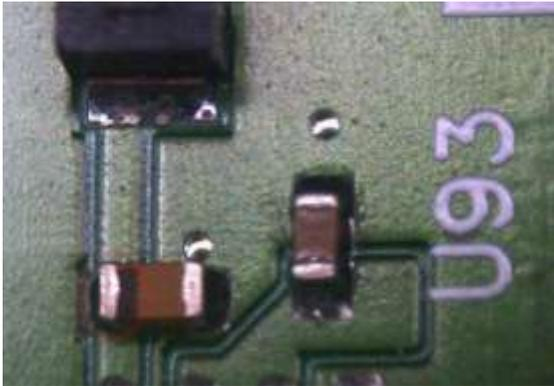
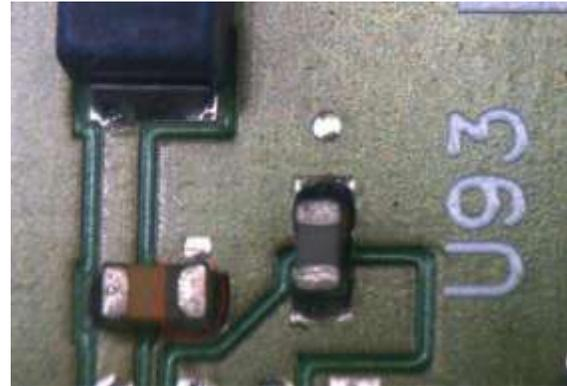

Figure 5
Figure 6
- (e) The polarity of C160 is indicated by a dark brown stripe at the positive electrode. The correct orientation of C160 is shown in Figure 5, whilst Figure 6 shows the wrong orientation of C160. If the orientation of C160 is correct, then proceed to step 2(h), otherwise continue to step 2(f).